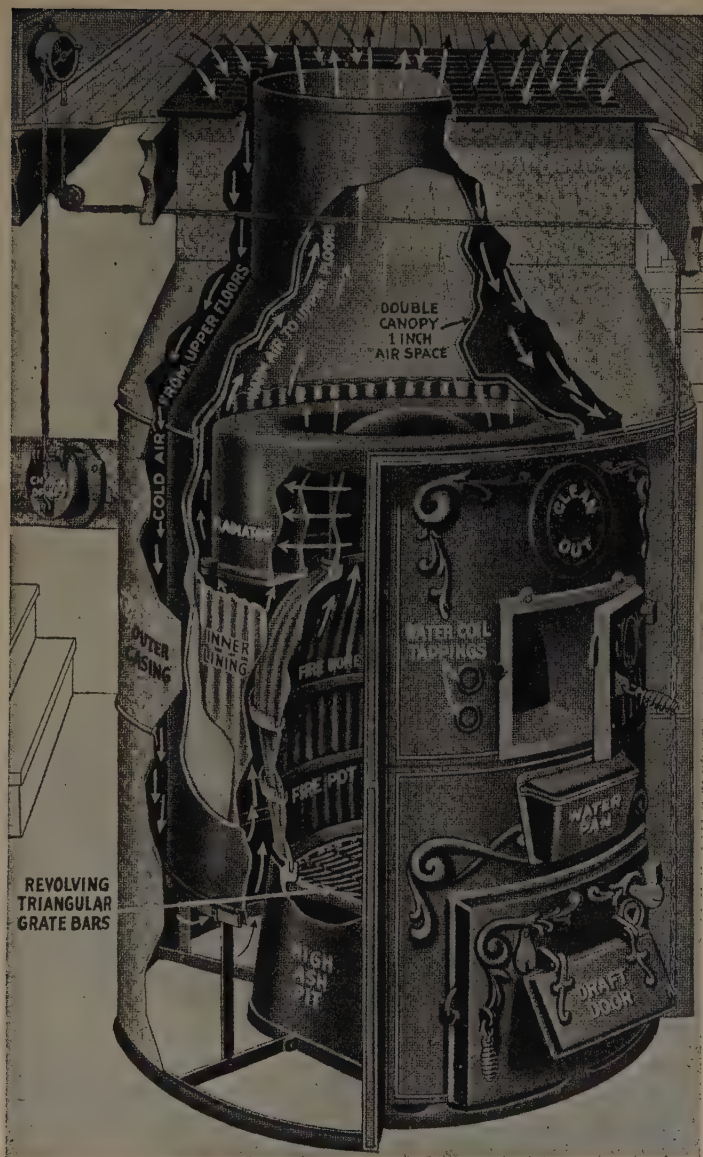

FIG. 129. — The one-pipe warm-air furnace.
**One-pipe and three-pipe furnaces.** The *one-pipe* or *pipeless furnace*, Fig. 129, is a warm-air recirculation type of heater. It delivers warm air through one large register so placed that it will easily warm the principal rooms of the house. Other rooms opening off these will be warmed by the circulating air currents. Upstairs rooms may be warmed by having registers which allow warm air from the rooms below to rise into the rooms, or by convection currents by way of an open stairway. Cold air is returned to the furnace through a register which surrounds the warm-air register. Outside the heater is the chamber for warming the air, and outside of this air-warming chamber is another chamber through which the downward currents of cold air